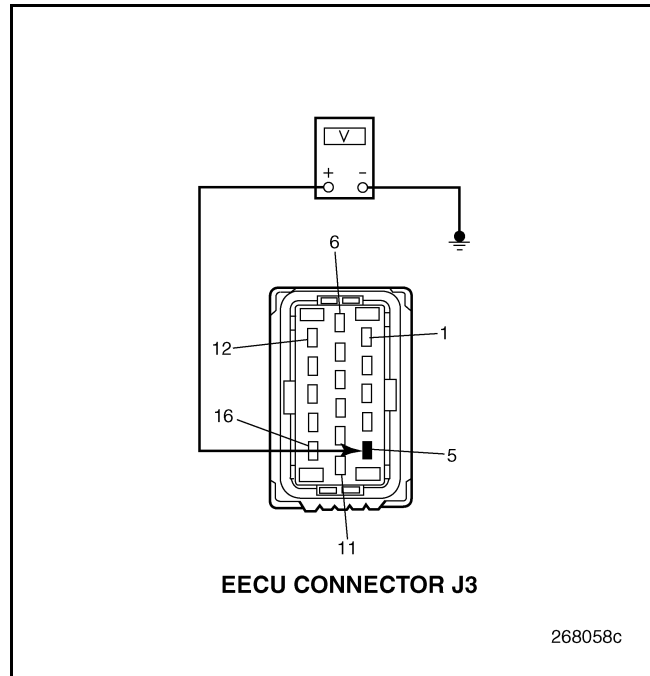

Figure 766
4. Measure the voltage between EECU connector J3 pin 5 and a good ground (see Figure 766).